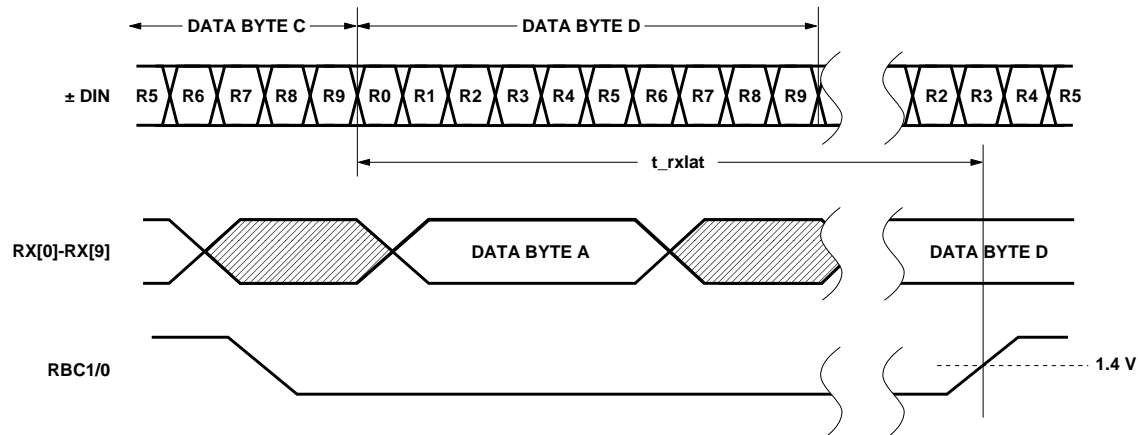

Figure 6. Receiver Latency.
4. The receiver latency, as shown in Figure 6, is defined as the time between receiving the first serial bit of a parallel data word (defined as the first edge of the first serial bit) and the clocking out of that parallel word (defined by the rising edge of the receive byte clock, either RBC1 or RBC0).